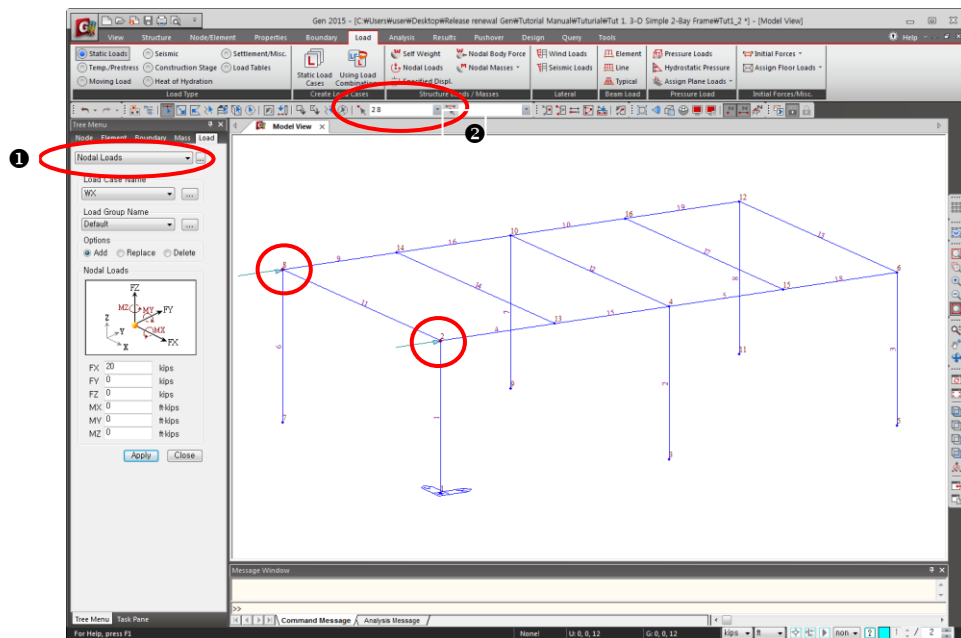

Figure 1.17 Entry of X-Direction Wind Load
1. Select **Nodal Loads** from the functions selection field. (Fig.1.17-).